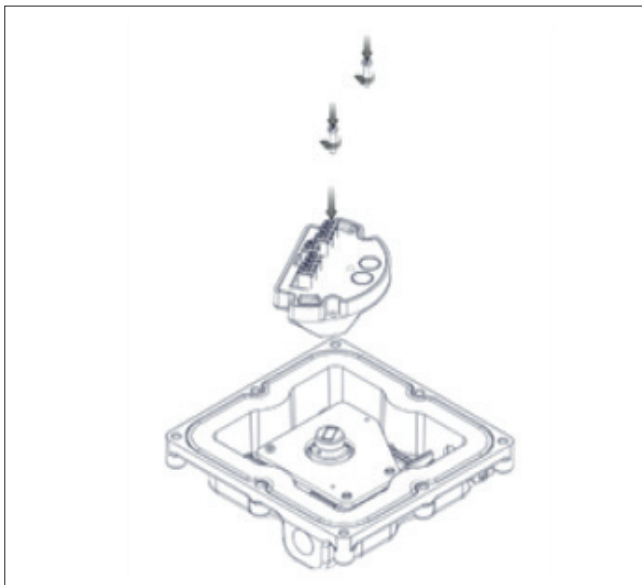

Figure 67. Assembling the Positioner Transmitter on Housing
3. Mount the Positioner Transmitter on the Housing Assembly with the 2 Screw as shown in Figure 67